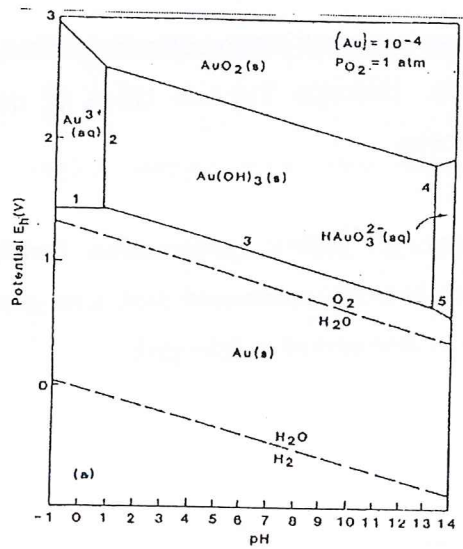

Figure 2 :  $E_H$  - pH diagram for Au-H2O system at 25°C
- [c] Figures 2 and 3, exhibit the  $E_H - pH$  diagram for Au-H2O system and the effect of reagent addition on the solubility of gold in the Au-CN-H2O system at 25°C respectively.